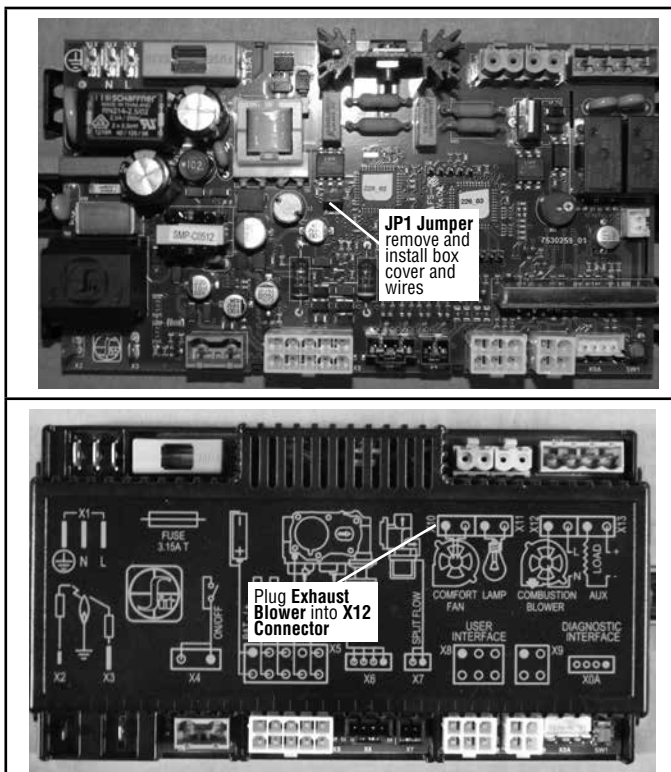

Figure 26 - Completing Rewiring on the Control Module
8. Power up the Exhaust Blower, Plug Power Cord Green 2 pin Connector to location X12 on the control module (see **Figure 26**). Finish by plugging the opposite end to the fireplace outlet.
2. Disconnect POWER from the PF2 module and all other wiring. Remove Module box cover. Remove Jumper from "JP1" location. Reinstall Module box cover and connect all wiring (see **Figure 26**).